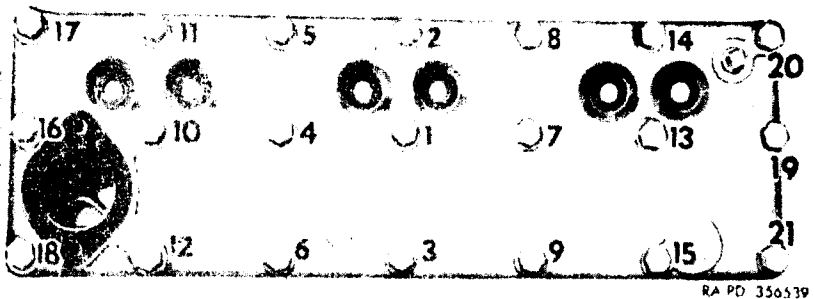

Figure 49. Cylinder head tightening sequence.
- c. *Installation of Cylinder Head.* Always use a new cylinder head gasket when installing the cylinder head. Coat both sides of the gasket with a light, high temperature nonfibre grease. Make sure the cylinder head and block are clean. Install all brackets retained by cylinder head screws. Tighten cylinder head bolts in sequence (fig. 49), drawing all bolts down evenly with a torque wrench to 65 to 70 pound-feet. A final tightening and checking of tension should be made after the engine has reached its normal operating temperature. Install all clips and parts that are retained by screws in the tapped head cap screws.